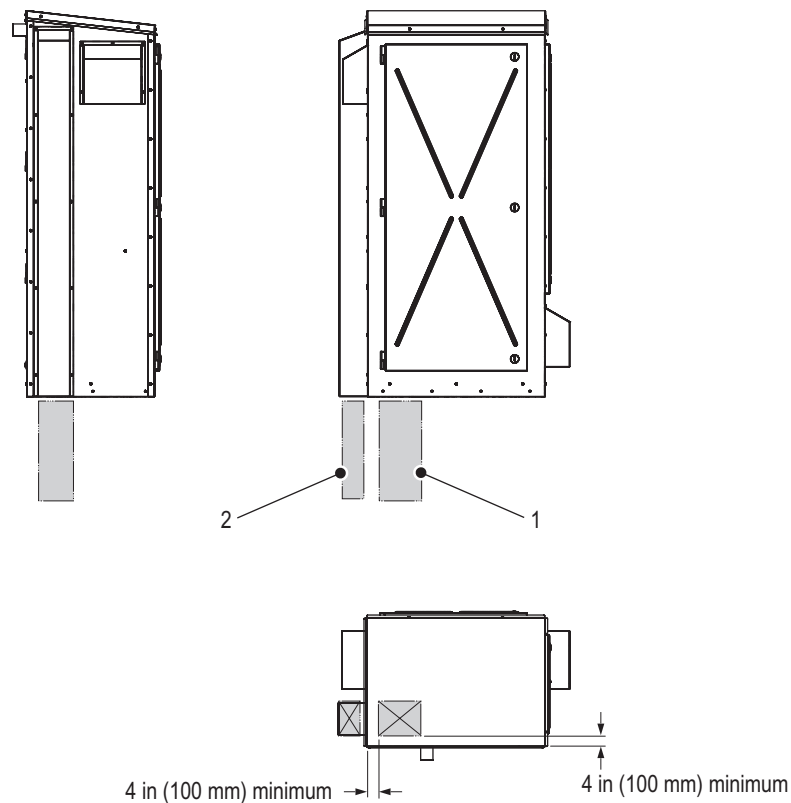

Figure 9: Pipe Chase Location
All external drain lines and water supply line must be routed through suitable pipe chases. Refer to Figure 9 for the general locations of the pipe chases.
6. Install suitably sized pipe chases for the drain lines and water supply line – refer to Figure 9 on page 23 for general locations.
4. Cut suitably sized openings in the roof and install pipe chases – refer to Figure 9 on page 23 for general locations.